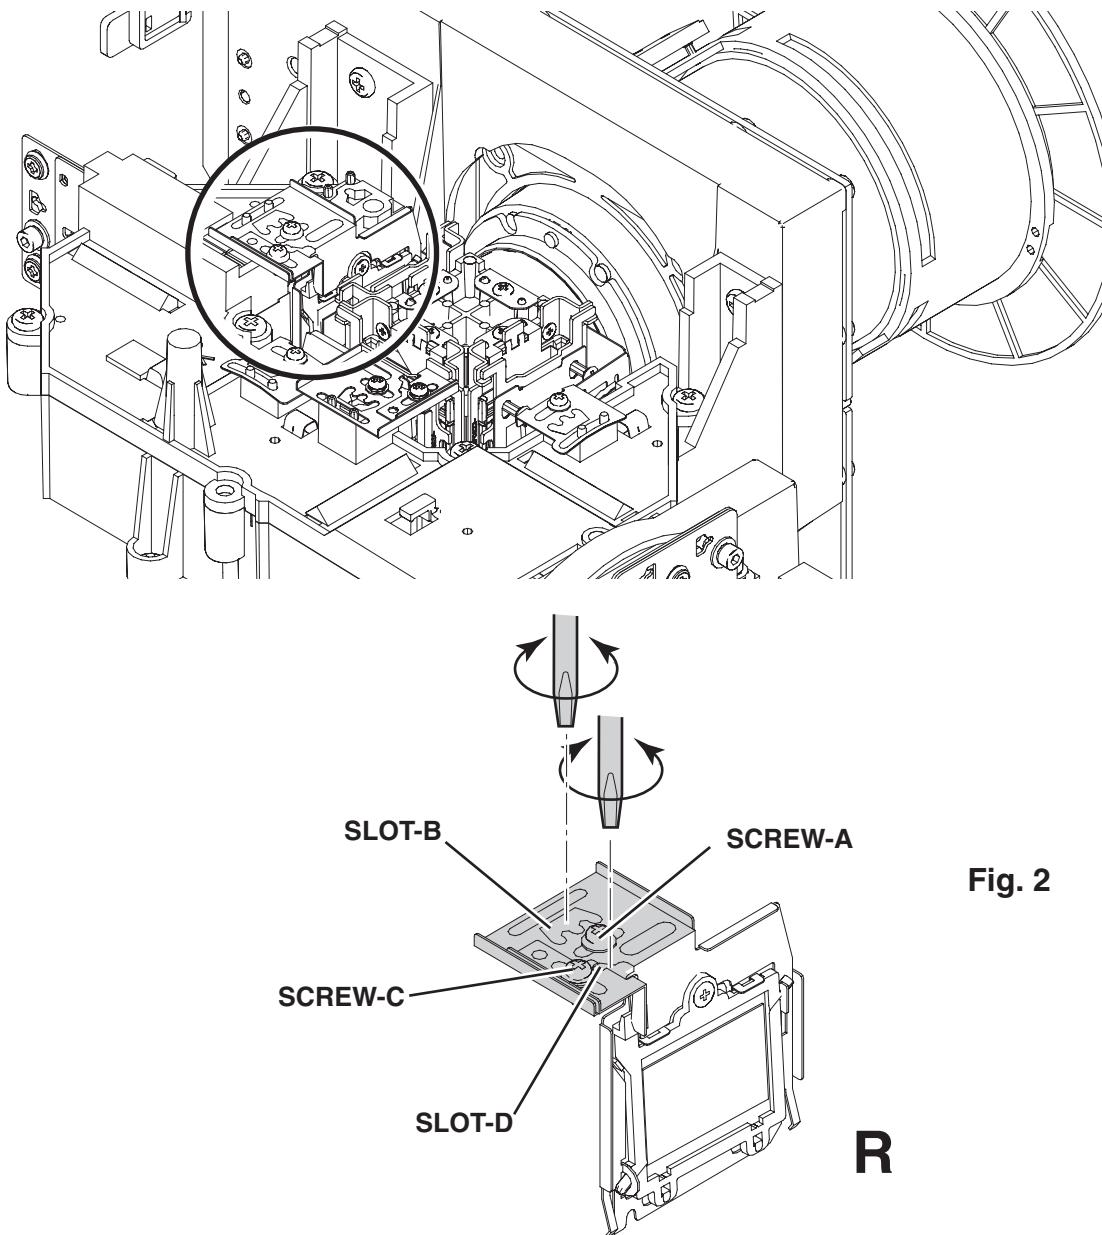

Fig. 2
2. Adjust the slot **B** to obtain the darkest brightness on the screen as shown in **Fig. 2**.
5. Adjust the slot **D** to obtain the uniform black on the screen as shown in **Fig. 2**.